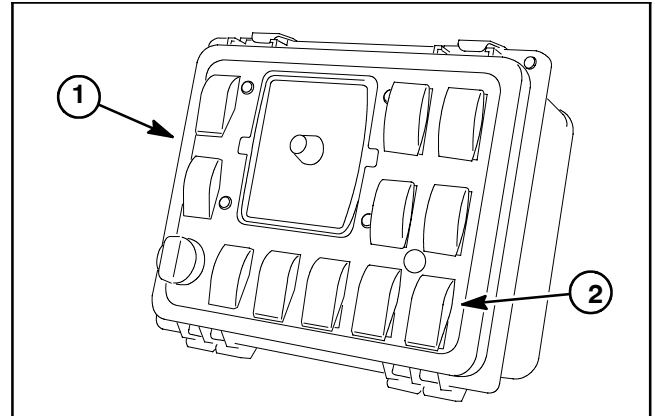

Figure 15
The sonic boom switch is used as an input for the Toro electronic controller (TEC) to activate the Ultra Sonic Boom System. This switch has two (2) positions: automatic and manual. The sonic boom switch is located on the spray control panel (Fig. 15).